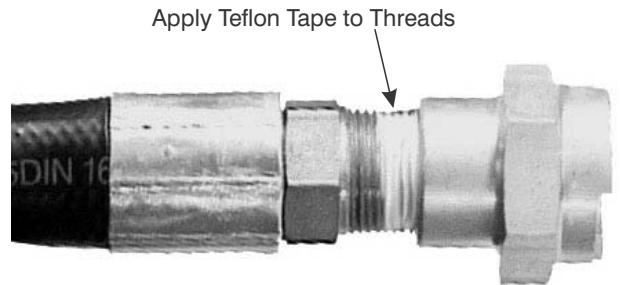

Figure 9-7. Teflon Tape on Hose Fitting
3. At one end of the Whip Hose, wrap the external threads of the hose fitting with teflon tape as shown in Figure 9-7.